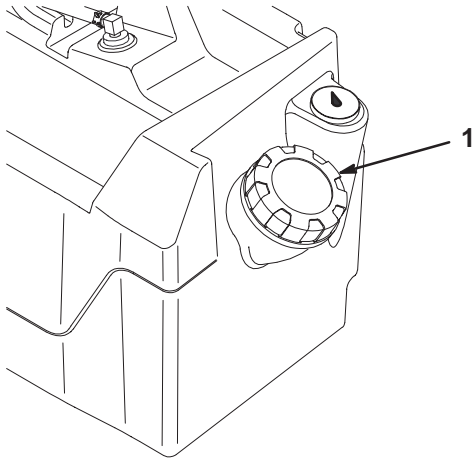

Figure 12
2. Clean the area around the fuel tank cap (Fig. 12).